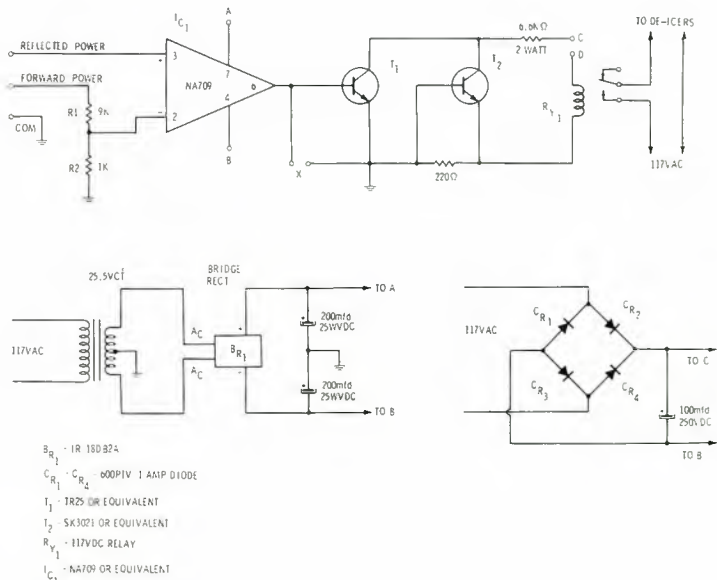

Figure 1
During the last few winters, severe icing on our antenna has caused us at WHCN (FM) to leave our de-icers on over an extended period of time. Last year, the de-icer on the bottom bay finally burned out. I decided that with our new Gates FMC-5 antenna, a change would have to come about if I did not want the same thing to happen. The circuit in Figure 1, represents a "Watchdog", which I assembled from spare parts. "Watchdogs" are available commercially for about \$100, but I decided to save some money and do it myself.
The circuit in Figure 1 was de-